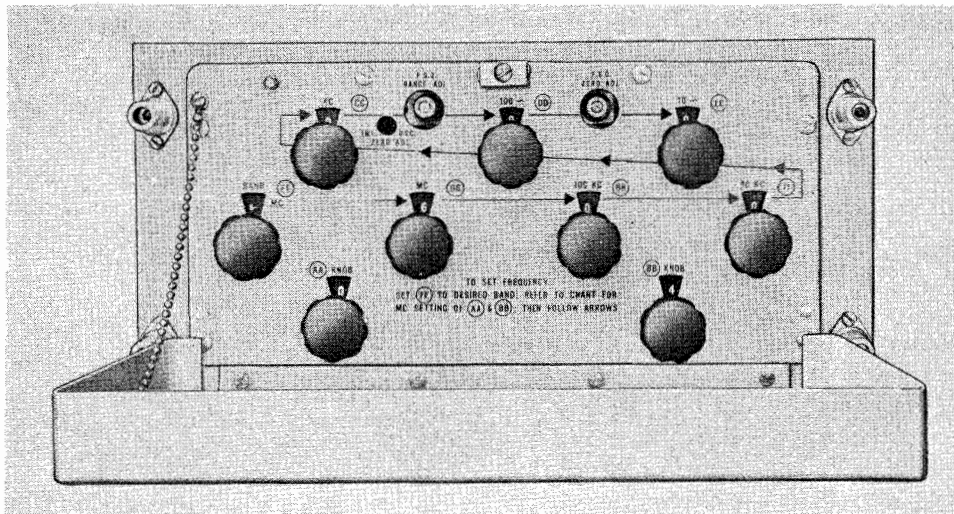

Figure 4-5. Radio Frequency Oscillator O-275/SRT (Radio Frequency Oscillator, RFO) Frequency Selection Panel Controls
(2) FREQUENCY SELECTION KNOBS.—There are nine frequency selection knobs for the manual selection of a frequency to be transmitted (figure 4-5). They are located behind a door on the RFO front panel. This door must be opened to change a frequency setting. Incorporated in the opening of the door is a safety device that prevents the transmitter from having a 500-watt carrier on while the door is open. The nine control knobs are designated: (AA) KNOB control, (BB) KNOB control, KC (CC) control knob, 100 ~ (DD) control knob, 10 ~ (EE) control knob, BAND (FF) control knob, MC (GG) control knob, 100 KC (HH) control knob, and 10 KC (JJ) control knob. These knobs are set for the frequency desired according to instructions inscribed on the front panel. After the selection has been made, the door is closed.